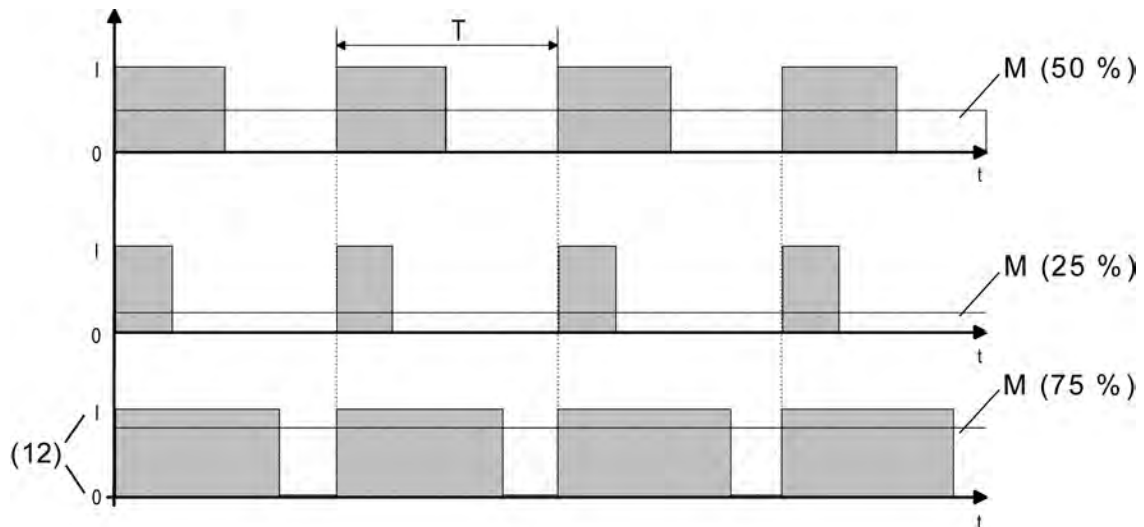

Figure 19: Pulse width modulation of a valve output signal
As soon as that device should set a constant command value or a valve setpoint position value configured in the ETS, it modulates the output signal using the switch-on pulse width. Taking the cycle time (T) settable in the device into account, the average output signal (M) resulting from this modulation is a measure of the centred valve position of the control valve and thus a reference for the set room temperature (figure 19).